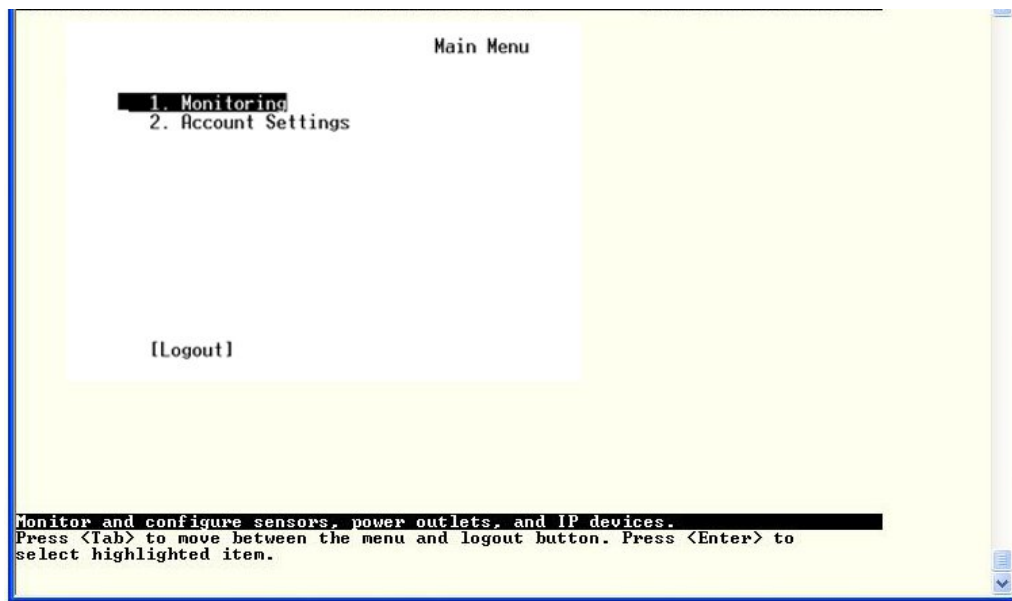

Figure 7- Text Menu- User Main Menu
- To move from menu list to action key (such as “Logout” in Figure 7), press <Tab>.